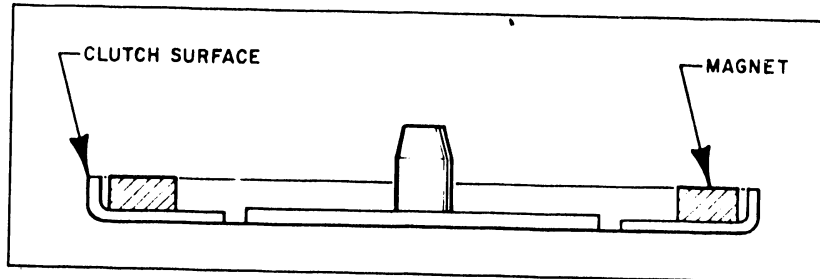

FIGURE 5-15 CLUTCH SURFACE AND MAGNET
- 2) Using a very small quantity of metal cleaner (oxide remover) on the end of a Q-tip, rub the clutch surface until the corrosion is removed. DO NOT permit the fluid to run between the magnet and the clutch. (See Figure 5-15.)